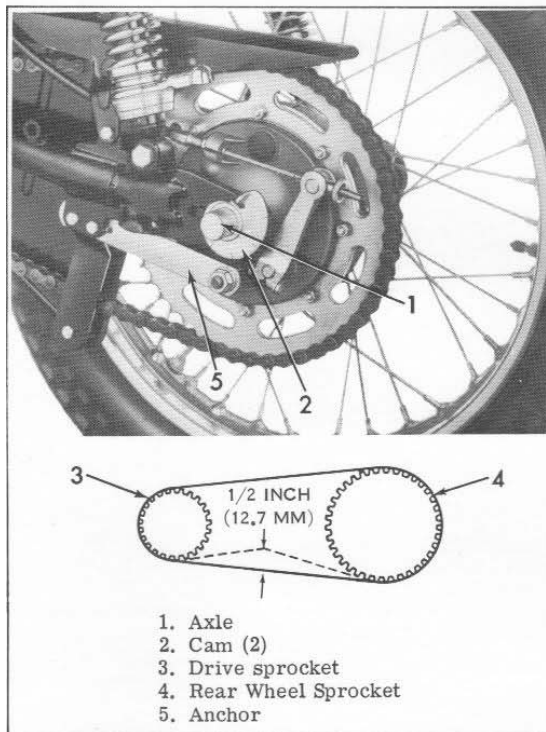

Figure 2.1. Drive Chain Adjustment
To adjust rear chain, loosen axle nut and anchor stud nut. Rotate cams (2), Figure 2.1, on each side an equal distance to obtain proper tension. Refer to notches stamped on each cam. Both should be rotated to same relative notch. Also, check to see that each cam is in contact with rear fork stop tab. Otherwise, wheel axle could move, changing chain tension and wheel alignment during motorcycle operation.